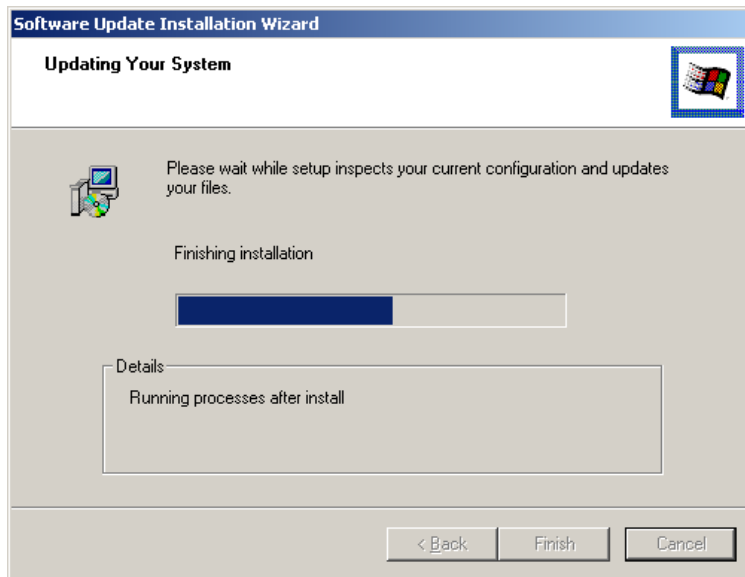

Figure 7-34: Installation Wizard Updates the System
Step 12: The Installation Wizard updates the system as shown in Figure 7-34.